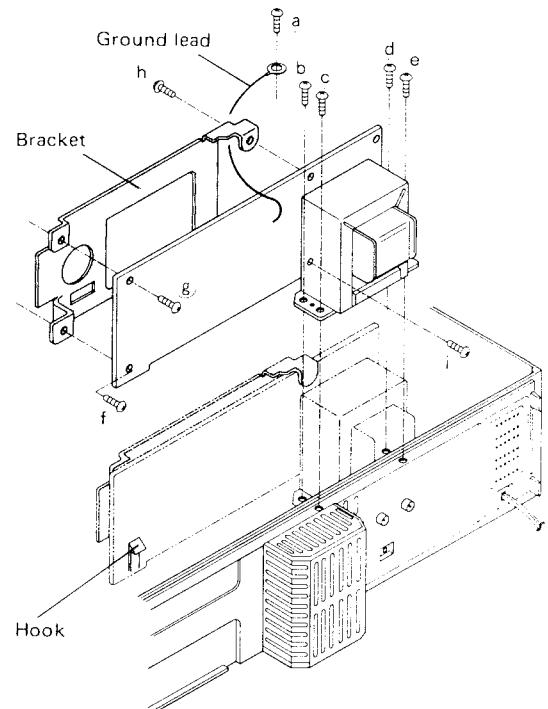

Fig. 2-12
- 5) Remove the screw **a** retaining the PCB HEAD AMP and the ground lead wire as shown in Fig. 2-12.
- 7) Unlock the hook and remove the PCB POWER TRANS by pulling upward as shown in Fig. 2-12.